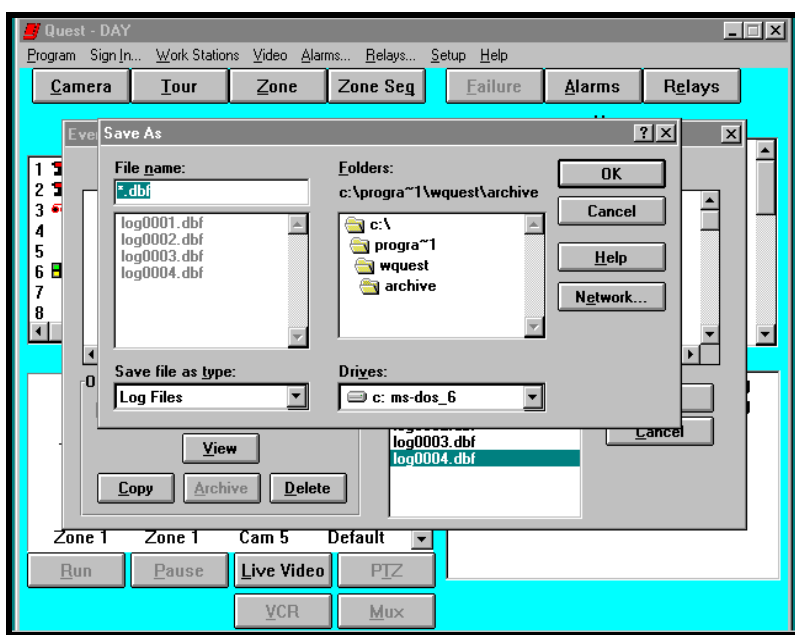

Figure 2-21. Copy Event Log
3. To copy an archived event log, click on the event log that you want to copy, then click on the **Copy** button. The Save As dialog box will be displayed (Figure 2-21).